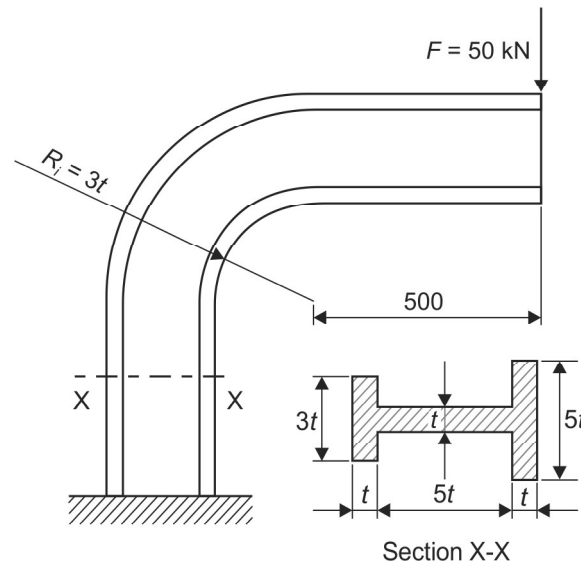

Fig. 1.32(a): Problem 27
27. Taking a permissible stress in the material as 100 MPa, estimate the thickness 't' for the cross-section shown in Fig. 1.32(a). Determine the maximum stress induced in the material of the member shown considering curved beam effect. By how much the factor of safety is reduced if the ultimate strength of the material is 440 MPa.